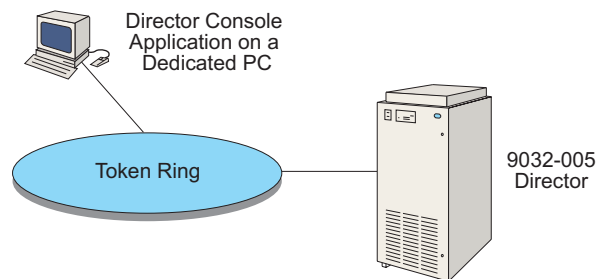

Figure 28. Director Console Application on a Dedicated PC
1. The recommended platform is a dedicated IBM PC with appropriate hardware and software (Figure 28).